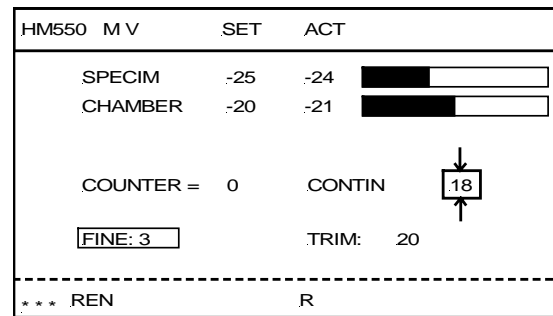

Fig. 15
- The selected setting is shown inverted on the display (fig. 15).